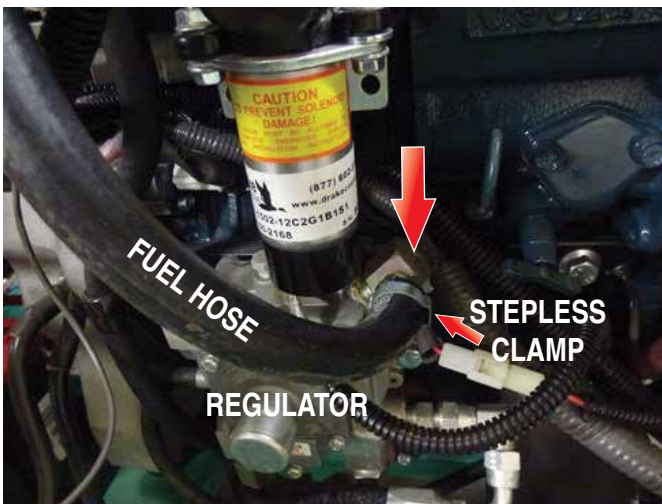
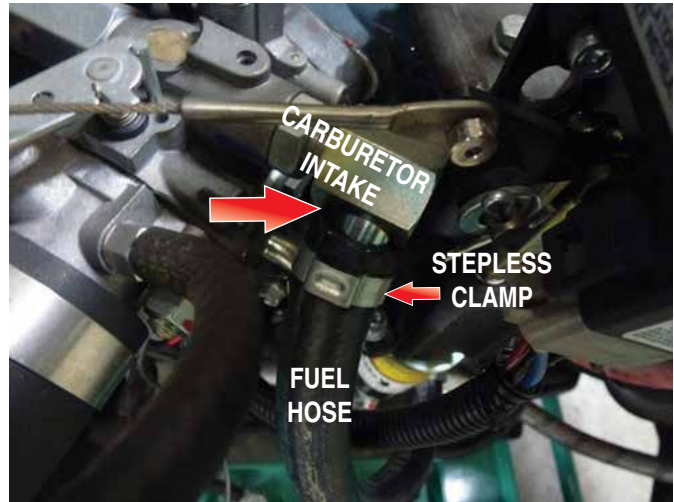

Figure 10. Connecting Fuel Hose to Regulator
Figure 11. Connecting Fuel Hose to Carburetor
6. Attach one end of new fuel hose (P/N 60072) to the regulator port (Figure 10), and attach the other end to the carburetor intake port (Figure 11). Crimp both stepless clamps to secure hose.